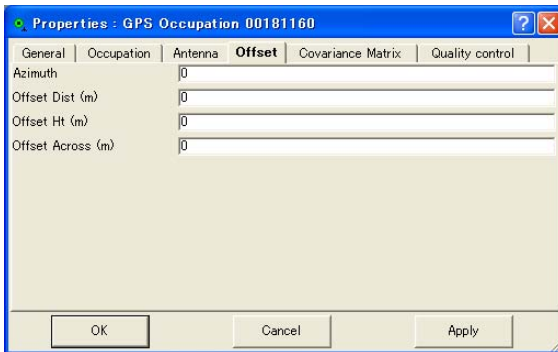

Figure 5-7. GPS Occupations Properties – Offset Tab
3. Right-click on the *GPS Occupations* table and click **Properties** on the pop-up menu. Click the **Offsets** tab to edit antenna offsets for the selected occupation (Figure 5-7 on page 5-7).